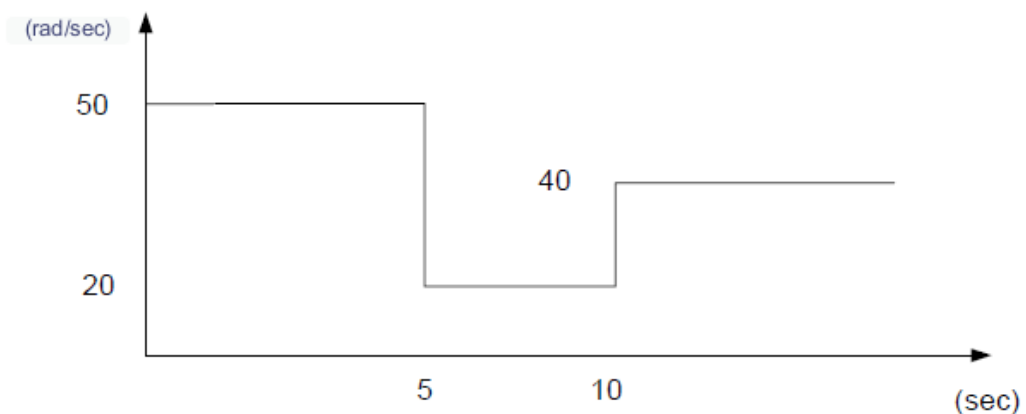
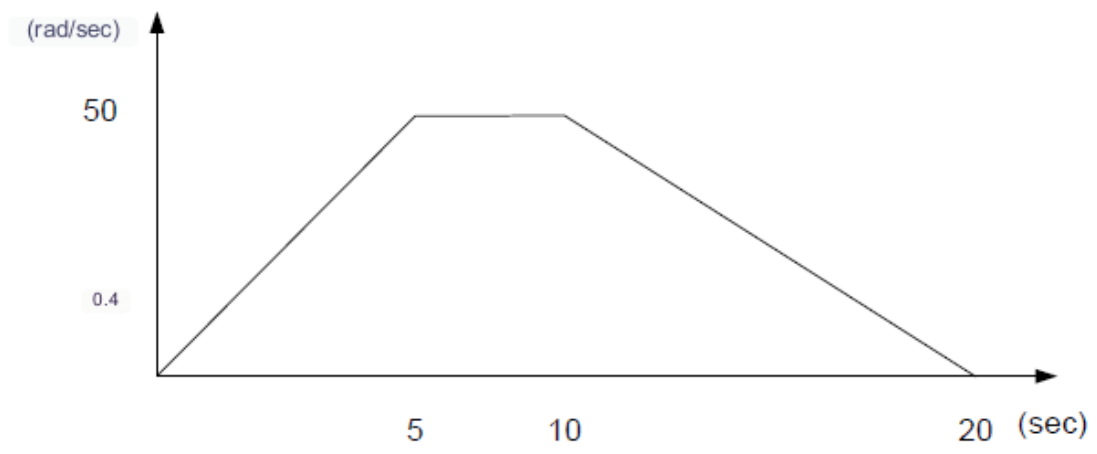

Fig. 3
Fig. 4
- Next, two different profiles of the reference signal are examined, as shown in Fig.3 and Fig.4.